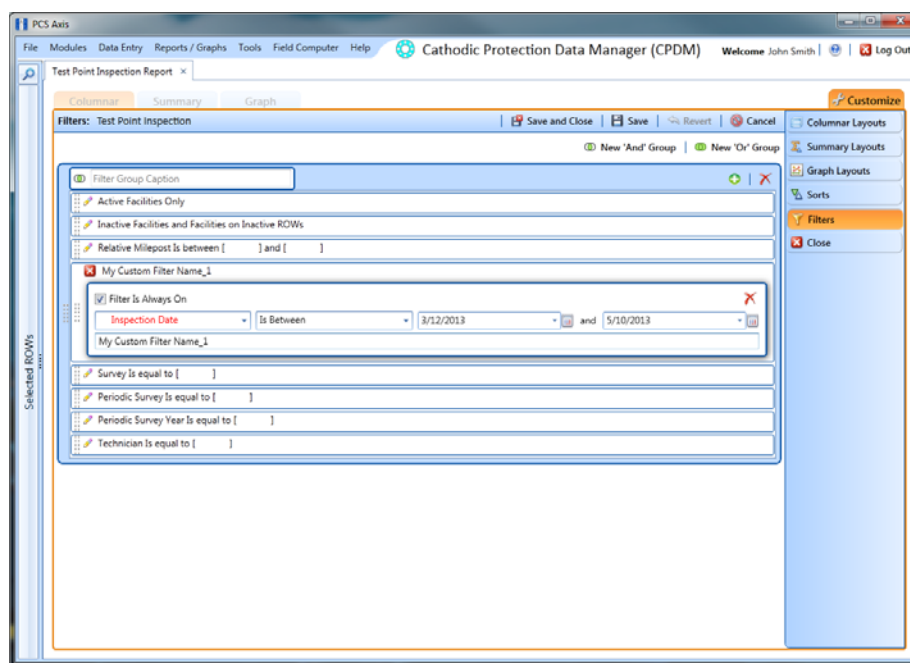

Figure 14-47. Inspection Date Is Between
- 4 Click the edit icon  to display a filter's property settings. In the following example, property settings for *Inspection Date Is between* are visible (Figure 14-47, page 588).